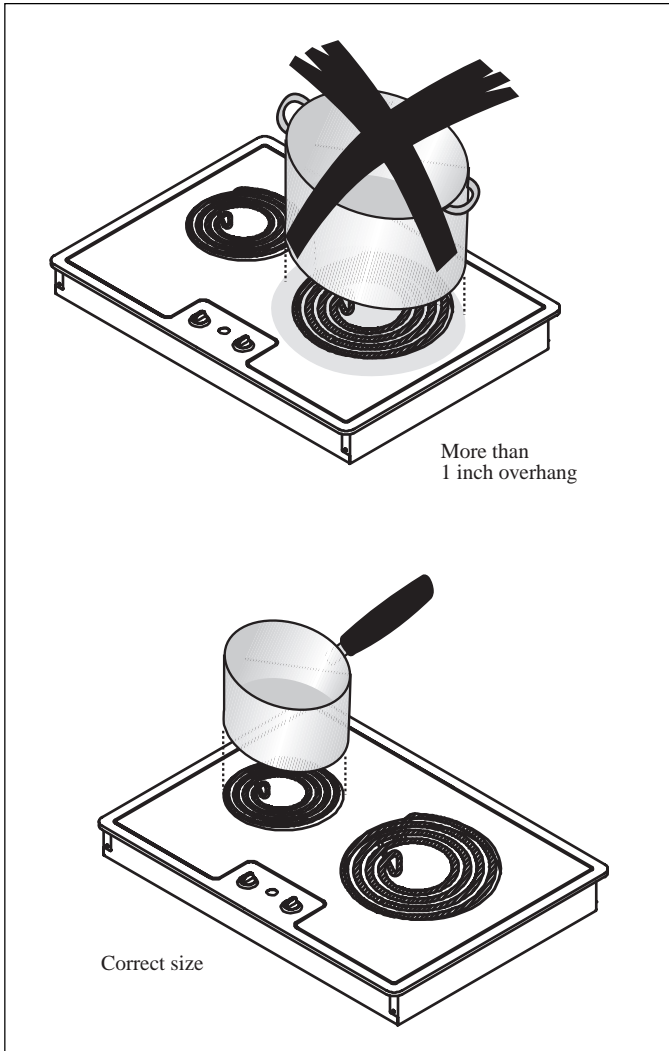

Figure 4
- Use proper pan size. Do not use a pan that has a bottom smaller than element. Do not use utensils that overhang element by more than 1 inch. (Figure 4)